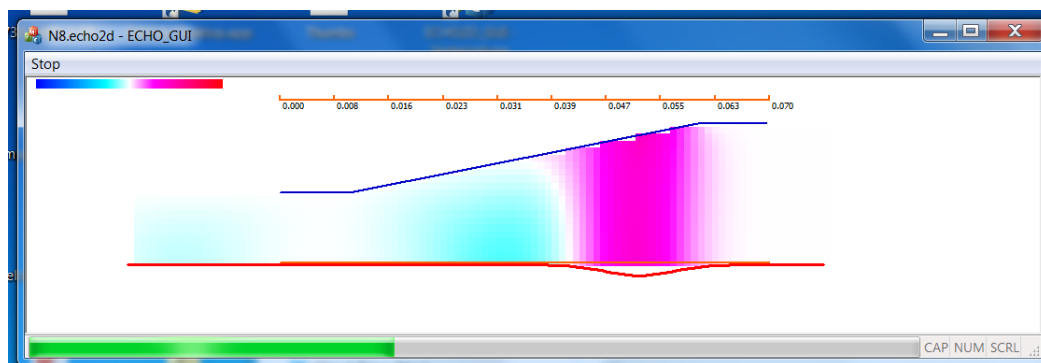

Figure 4.16: Geometry of flat taper.
The taper has geometry shown in Fig. 4.16 with $Width = 0.05\text{m}$ defined in file **input_in.txt**. The bunch flies in ZY symmetry plane ($x_0 = x = 0$) and we calculate only odd modes $Modes = 1\ 3\ 5\ 7$. The bunch flies on axis and we use *SymmetryCondition = magn* and proceed as follows:
- Go to menu "File/Open" and navigate to directory **Examples/ N8_FlatTaperWithFieldMonitor/ ECHO2D**. Open the input file **N8.echo2d**. You should see the geometry shown in Fig. 4.16.